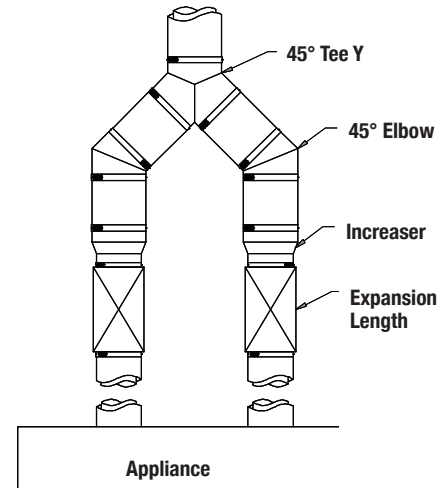

Figure 14 - 45° Tee Y
1. This kind of tee is useful where the stack is located between two application or with a double exhaust system. Use the same support method and thermal expansion considerations from the other tees (see **figure 14**).